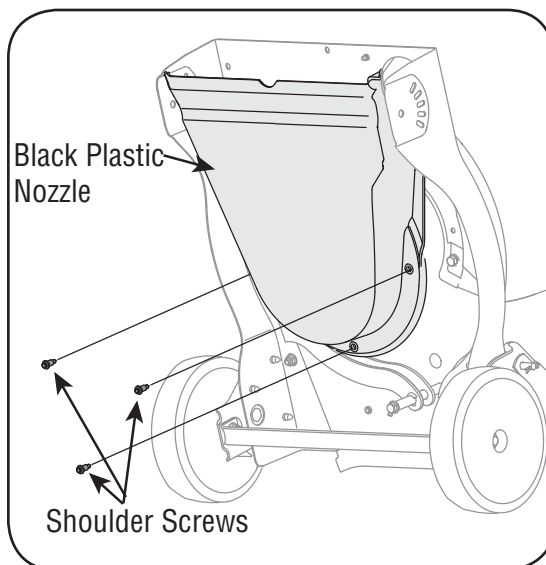

Figure 5-6
- Carefully tilt and support the unit up to provide access underneath to the nozzle mounting hardware and impeller. Remove the three shoulder bolts securing the black plastic lower flail housing to the lower housing. Refer to Figure 5-6.